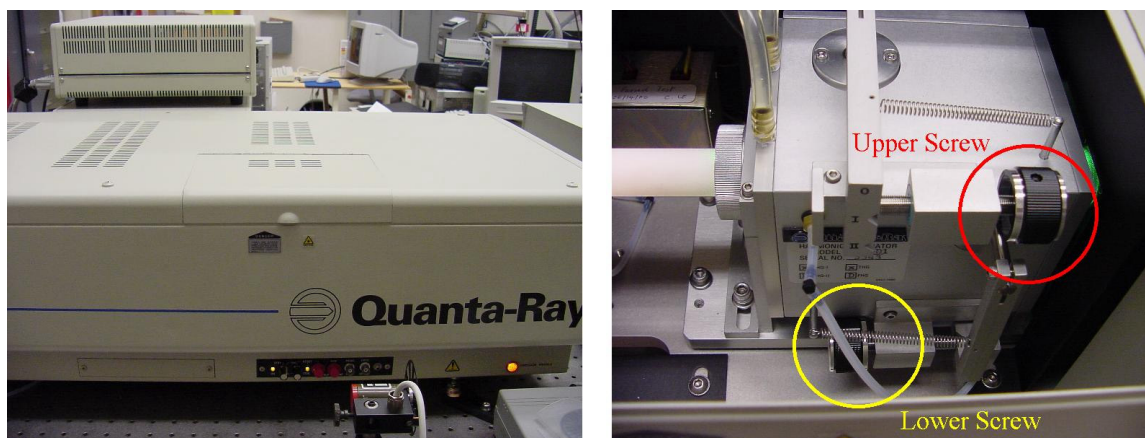

Figure 11: Left picture shows the location of the hatch containing the Harmonic Generator (HG). Right shows the location of the screws upon opening the hatch.
13. **Open the Harmonic Generator (HG) lid on the side of the Nd-YAG. Laser emission at 534 nm (UV-Visible) – eye protection !!!! Turn upper screw very careful (only a few μm) with the pulse reading in sight and optimize pulse. Then turn the lower screw and optimize.** This is to optimize the laser's FDO position so the maximum power leaving the Nd-YAG is achieved. Note: Lower screw is more sensitive than upper screw. There is a slight time delay from turning the screws and the pulse reading on the Beamlock Controller. (See Floor Plan ⑧ on pg. 1 and Figure 11)